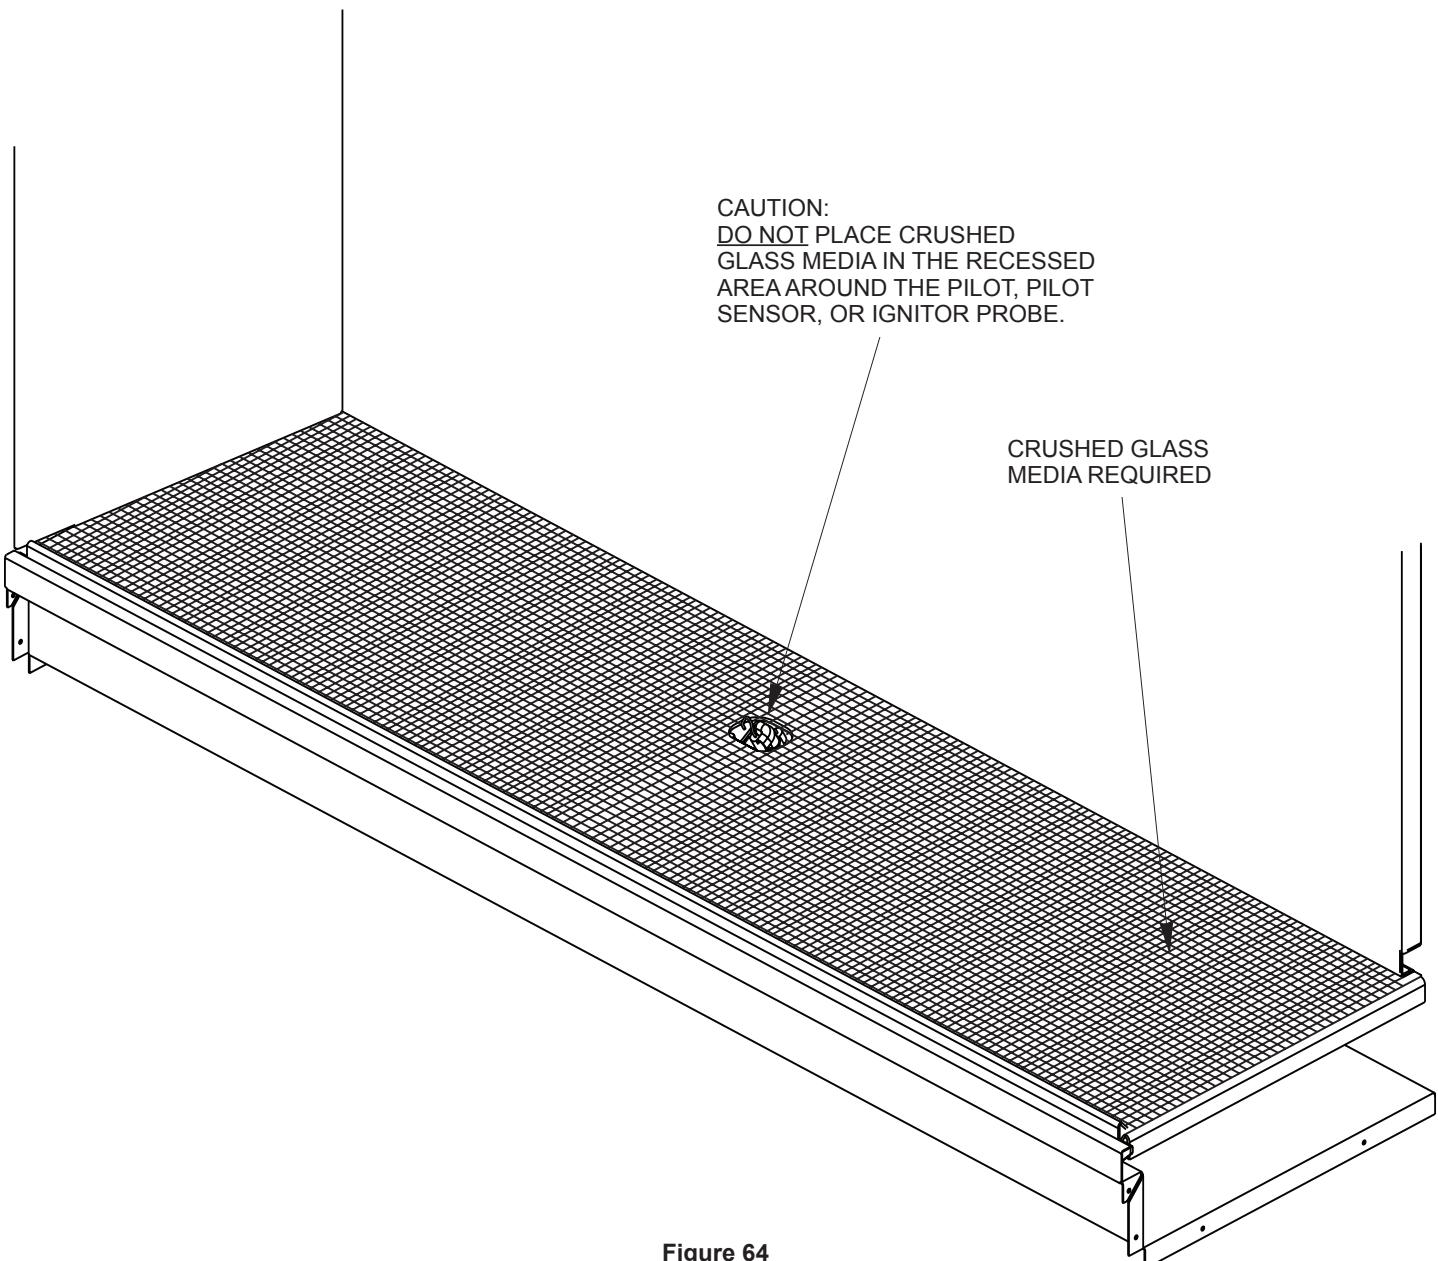

Figure 64
2. Place crushed glass media over the burner screen in a single layer. Use ONLY enough crushed glass media to mask the burner screen. **See Figure 64.**